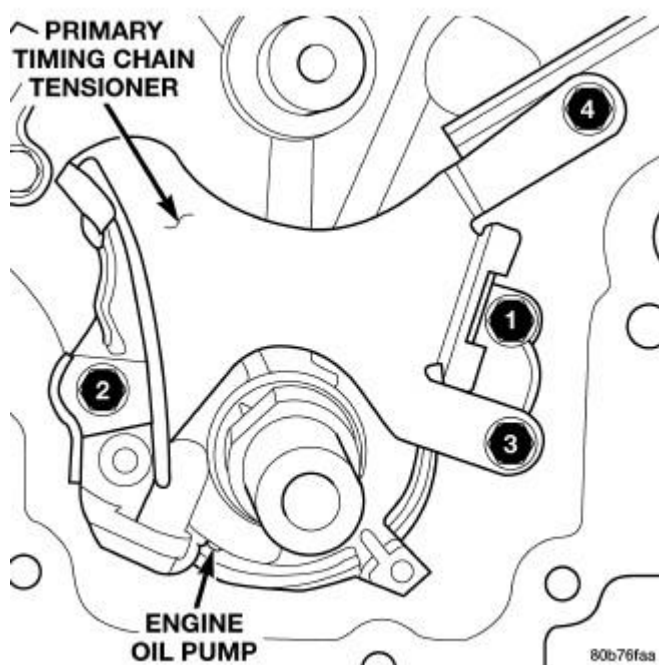

Fig. 168: Identifying Oil Pump And Primary Timing Chain Tensioner
3. Tighten the oil pump and primary timing chain tensioner retaining bolts to 28 N.m (250 in. lbs.) in the sequence shown in **Fig. 168**.